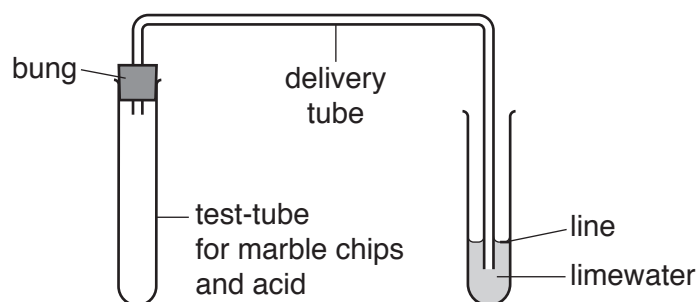

Fig. 3.1
- Set up the apparatus as shown in Fig. 3.1.